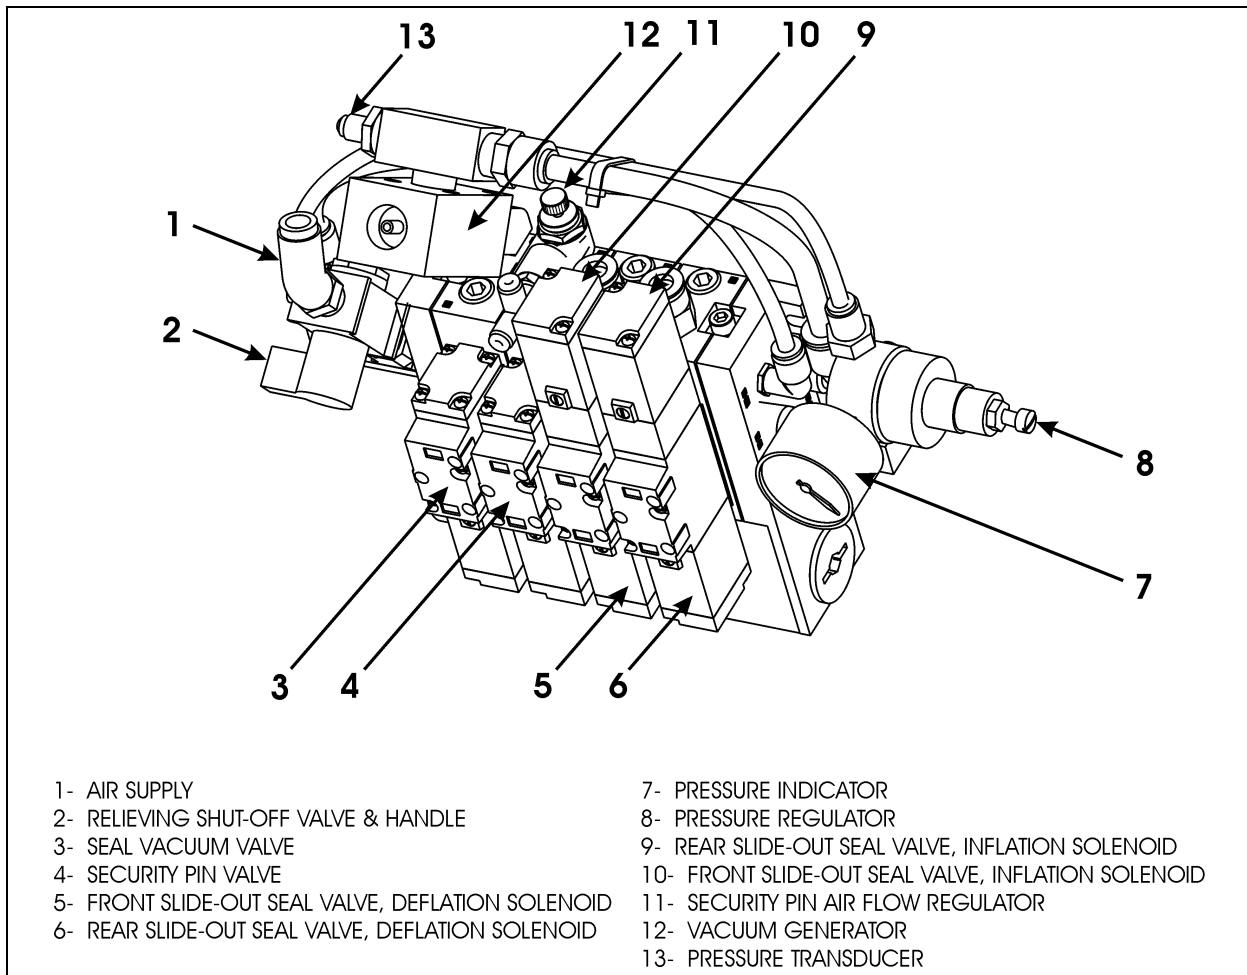

FIGURE 29: PNEUMATIC COMPONENT PANEL
Make sure the inflatable seal is deflated when manually moving the slide-out during service maintenance. Deflate both inflatable seals completely by turning the relief shut-off valve handle clockwise (see FIGURE 29).
2. Manually deflate the seal completely by turning the relieving shut-off valve clockwise (Figure 29). Make sure the pressure indicator reading is "0 psi".